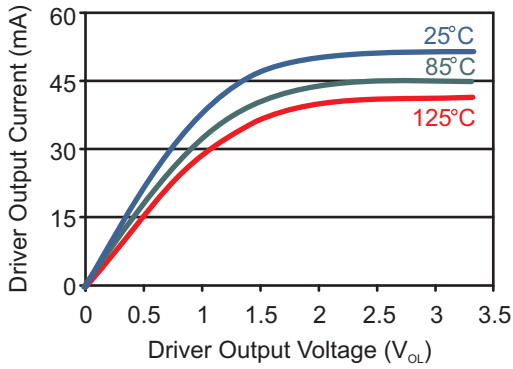

Figure 3. Typ. driver output current vs. driver output voltage (V_{OL}).
- Added overcurrent protection to DC-DC convertor detailed block diagram (Fig. 3).